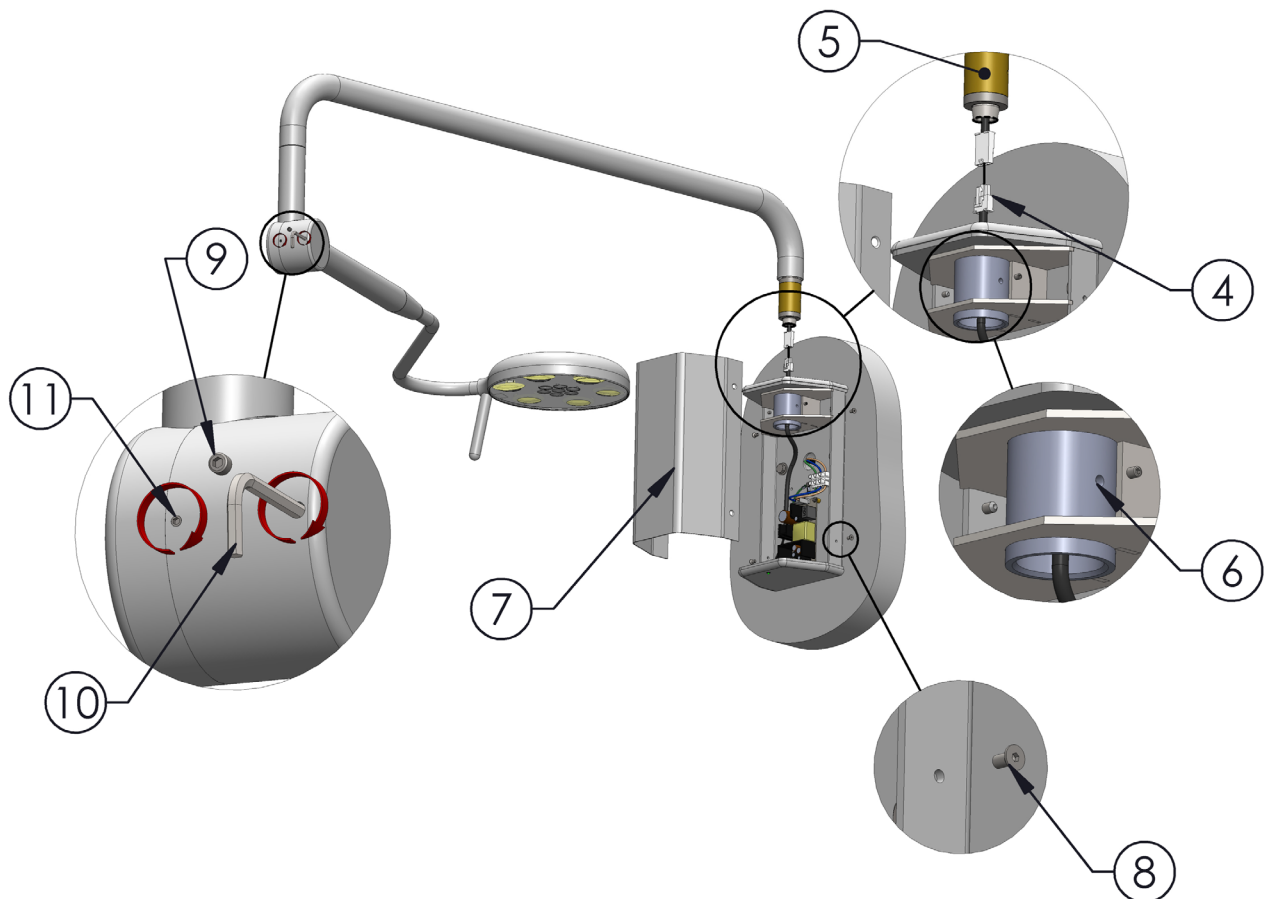

Fig. 18.0
4. Lift Phantom arm into place, and engage the 24V plugs as shown in Fig. 18.0.
5. Insert the arm bearing into the wall unit (taking care to align the threaded holes on the arm side bearing sheath with the corresponding holes on the bearing sheath on the wall unit, as shown in Fig. 18.0.
6. Insert and tighten the two grub screws to complete the fixing of the arm to the wall unit as shown in Fig. 18.0.
7. Replace the wall unit cover as shown in Fig. 18.0.
8. Fix in place with the countersunk screws provided, as shown in Fig. 18.0.
9. Unscrew the end cap for access to the spring balance adjustment, as shown in Fig. 18.0.
10. Adjust the spring balance: using a 4mm allen key, adjust the screw inside the knuckle. Clockwise/Tightening the screw will cause heavier engagement of the spring - this will improve 'head droop'. Anticlockwise/loosening the spring balance will fix a 'rising head' issue, as shown in Fig. 18.0.
11. Friction adjustment: Clockwise/tightening this screw will apply more friction to the arm mechanisms, as shown in Fig. 18.0. The arm will require more force to move, however will not continue to move with momentum. This should be set to the staff preference.